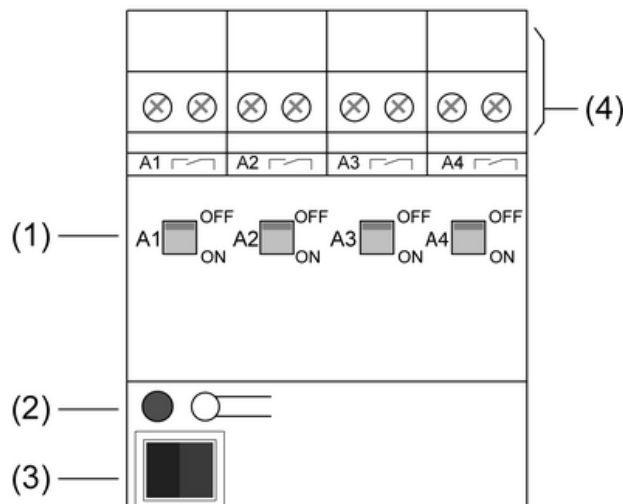

Figure 1: View of switch actuator 4gang
The status of the relay is reflected by the slide switches (1) on the front of the device (Figure 1). At the same time they can be used for manual operation of the relay outputs using a suitable tool.